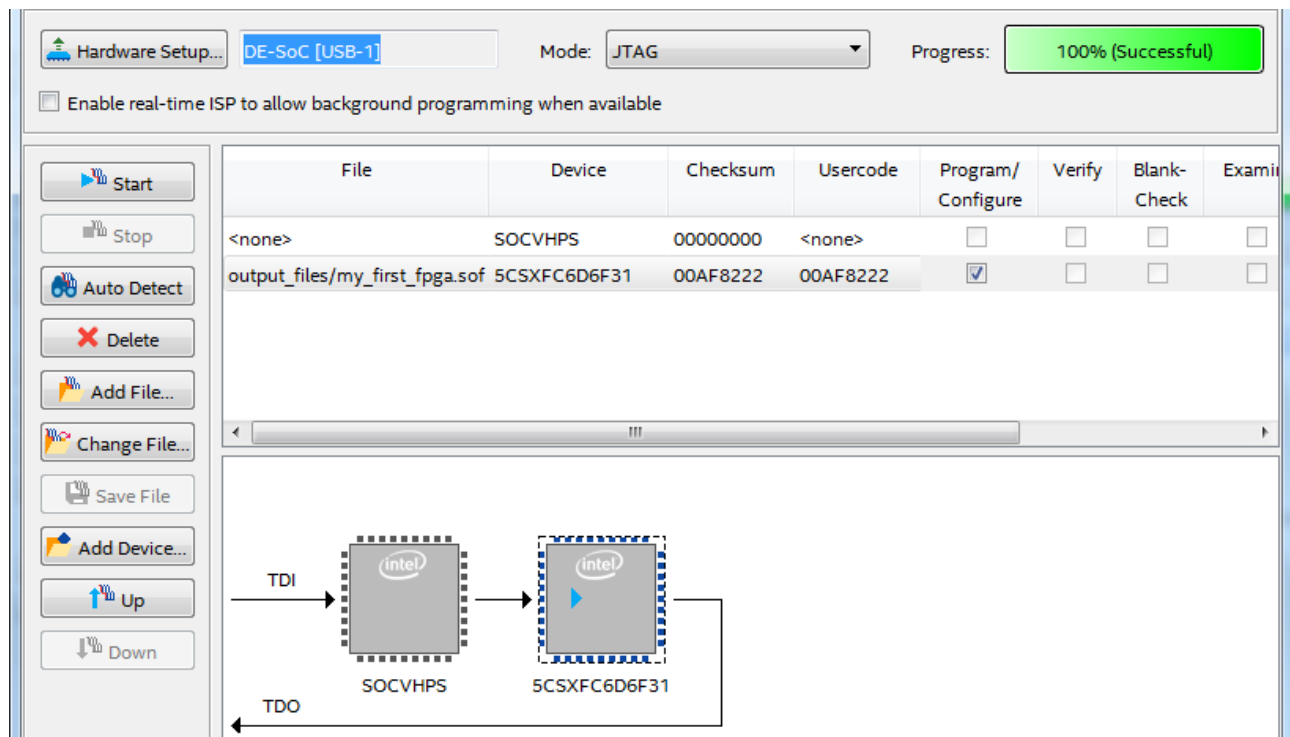

Figure 4-7 Downloading Complete
8. Select the `my_first_fpga.sof` file from the project directory (see **Figure 4-7**), select to Program/Configure and click Start to program .sof file into FPGA.